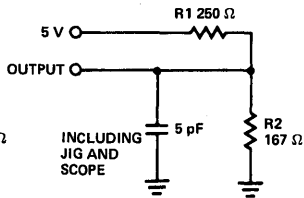

Figure 1b
8. t_{HZCS} is tested using the load shown in Figure 1b. The transition time is measured from 1.5V on the CS low to high transition to the output transition through the ±500 mV level respective to the 2.0V bias voltage (V_{THZCSL} = 1.5V, V_{THZCSH} = 2.5V).